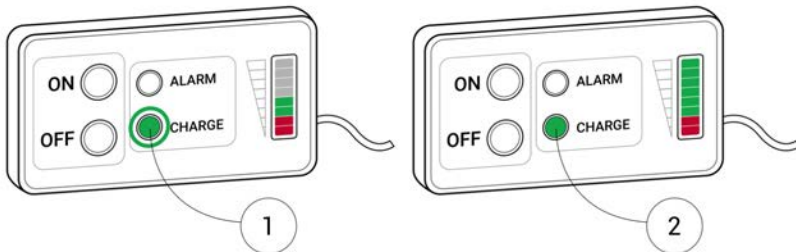

Figure 9. Indication of the Charging Modes
When charging the Accumulator, the green LED on the Status Indicator shows the following modes (Fig. 9):
**Important!** The end of charging is signaled by a steady green LED on the Accumulator's Status Indicator (Fig. 9).
The end of charging process is indicated by a steady green LED on the Accumulator Status Indicator (Fig. 9).